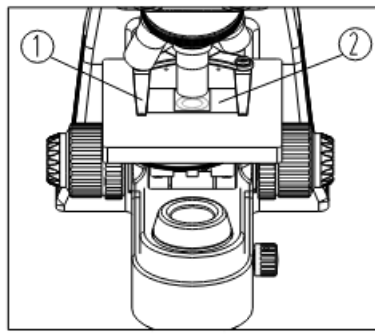

Fig. 8
Place the slide on the stage with the cover glass of slide② facing upwards and move the specimen to the center (aligned with the center of objective). Hold the slide in place using the slide-holder① (see Fig.8).